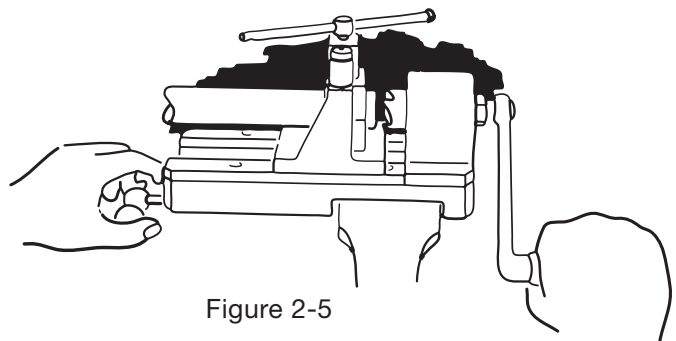

Figure 2-5
a. Advance tubing into squaring tool slowly, by advancing carriage screw, at the same time turning spindle operating handle clockwise. (See figure 2-5.) Continue this operation until face of tubing is completely squared. Do not attempt to remove more material than is necessary.